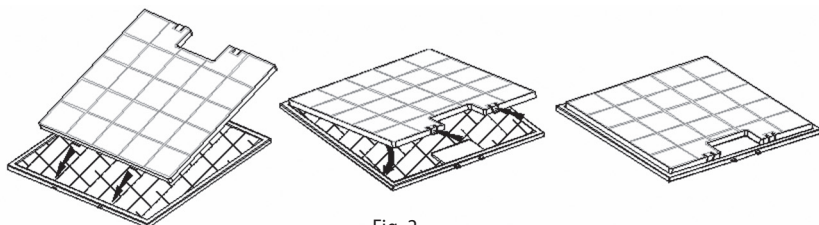

Fig. 2
2. Mount new carbon filters on the metal ones (Fig. 2), and put the set back.